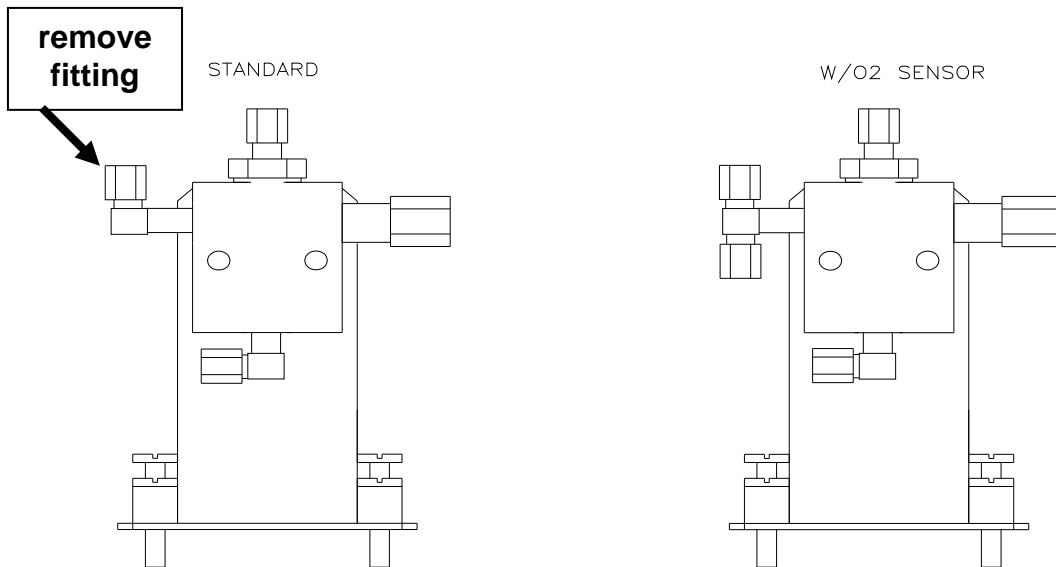
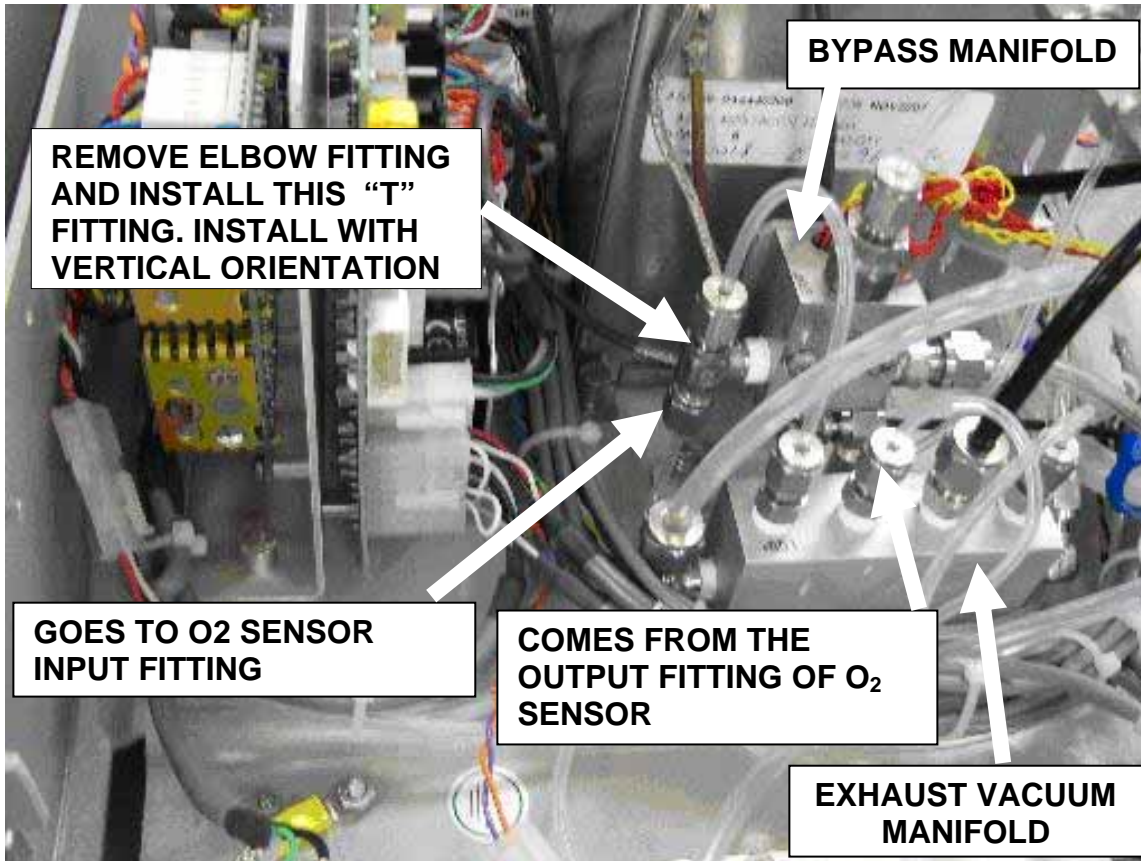

FIGURE 3. SHOWS THE BYPASS MANIFOLD BEFORE AND AFTER OXYGEN OPTION FITTING CONFIGURATIONS.
FIGURE 4. SHOWS THE "T" FITTING PLACEMENT WITH VERTICAL ORIENTATION AND LOCATION OF BYPASS MANIFOLD AS WELL AS THE EXHAUST/VACUUM MANIFOLD.
3. Refer to **figure 3** and locate the bypass manifold. Disconnect the 1/8" piece of tubing that goes to the exhaust/vacuum manifold, remove the 1/8" elbow fitting from the bypass manifold and replace it with a 1/8" "T" fitting". Install the "T" fitting with a vertical orientation see **fig 4**. Reconnect the piece of tubing (previously disconnected) to the top side of the "T" fitting just installed.